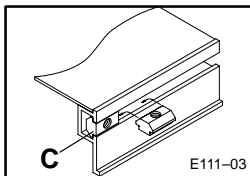

Figure 3: Drop-in T-bar Installation Detail
- a. Insert two (2) Single Drop-in T-bars into T-slot by rolling the Nuts into position (Figure 3).